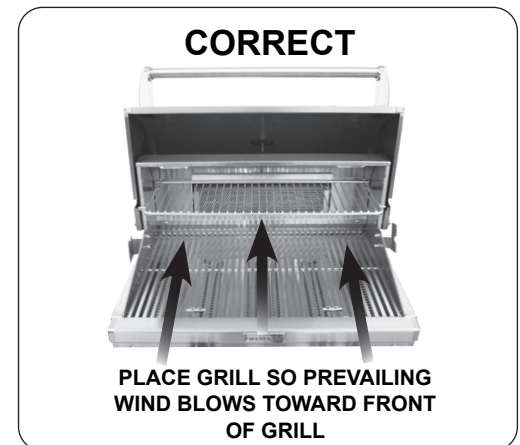

Fig. 13-2 Airflow direction - CORRECT
**CAUTION:** Wind blowing into or across the rear oven lid vent (Fig. 13-3) can cause poor performance and/or dangerous overheating. Orient the grill so that the prevailing wind blows toward the front of the grill (Fig. 13-2). **A wind deflector is available for purchase to assist in proper airflow during windy conditions.** See Table 3 for model numbers. Follow the instructions included with the wind deflector for installation.